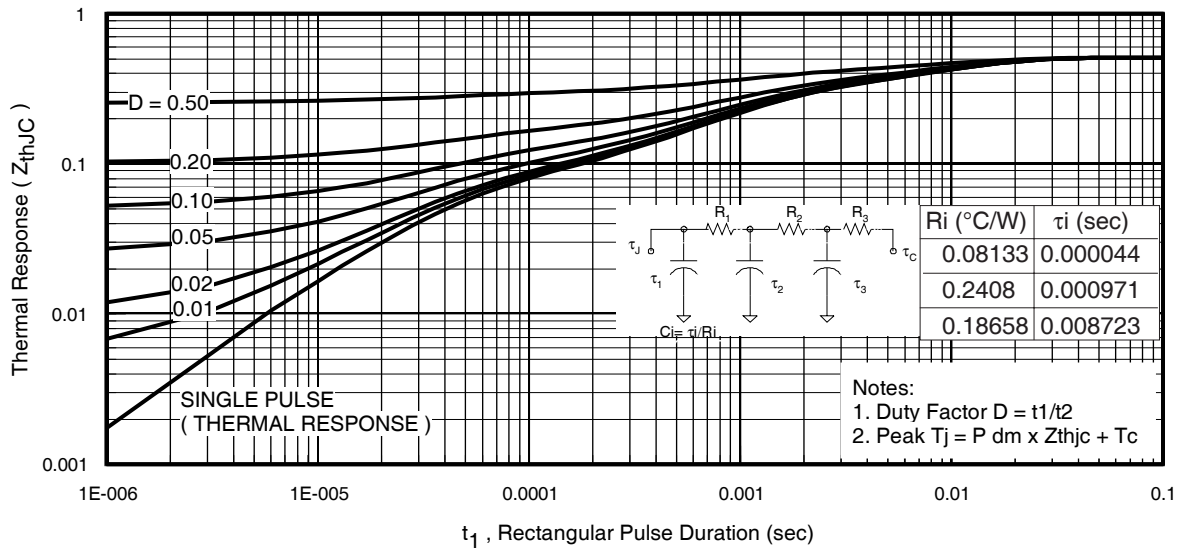
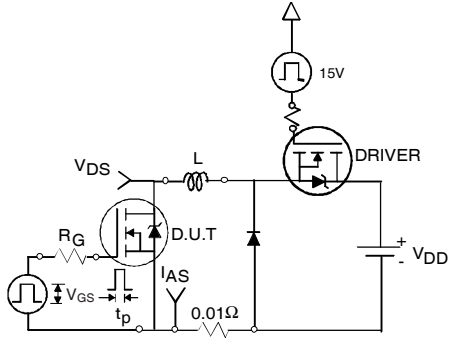

Fig 11. Maximum Effective Transient Thermal Impedance, Junction-to-Case
Fig 12a. Unclamped Inductive Test Circuit
- ① Repetitive rating; pulse width limited by max. junction temperature. (See fig. 11).
- ② Limited by T_{Jmax} , starting $T_J = 25^\circ\text{C}$, $L = 0.10\text{mH}$, $R_G = 25\Omega$, $I_{AS} = 75A$, $V_{GS} = 10V$. Part not recommended for use above this value.
- ③ Pulse width $\leq 1.0\text{ms}$; duty cycle $\leq 2\%$.
- ④ $C_{oss\ eff.}$ is a fixed capacitance that gives the same charging time as C_{oss} while V_{DS} is rising from 0 to 80% V_{DSS} .
- ⑤ Limited by T_{Jmax} , see Fig.12a, 12b, 15, 16 for typical repetitive avalanche performance.
- ⑥ This value determined from sample failure population. 100% tested to this value in production.
- ⑦ This is only applied to TO-220AB package.
- ⑧ R_{θ} is measured at T_J approximately 90°C
3. Equation below based on circuit and waveforms shown in Figures 12a, 12b.
$Z_{thJC}(D, t_{av})$ = Transient thermal resistance, see figure 11)